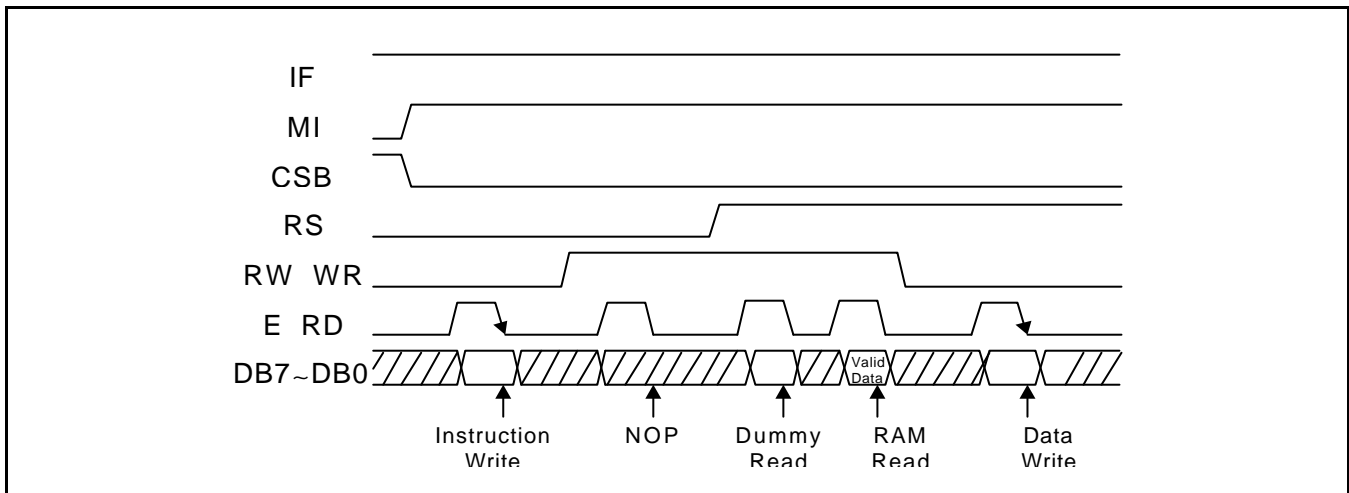
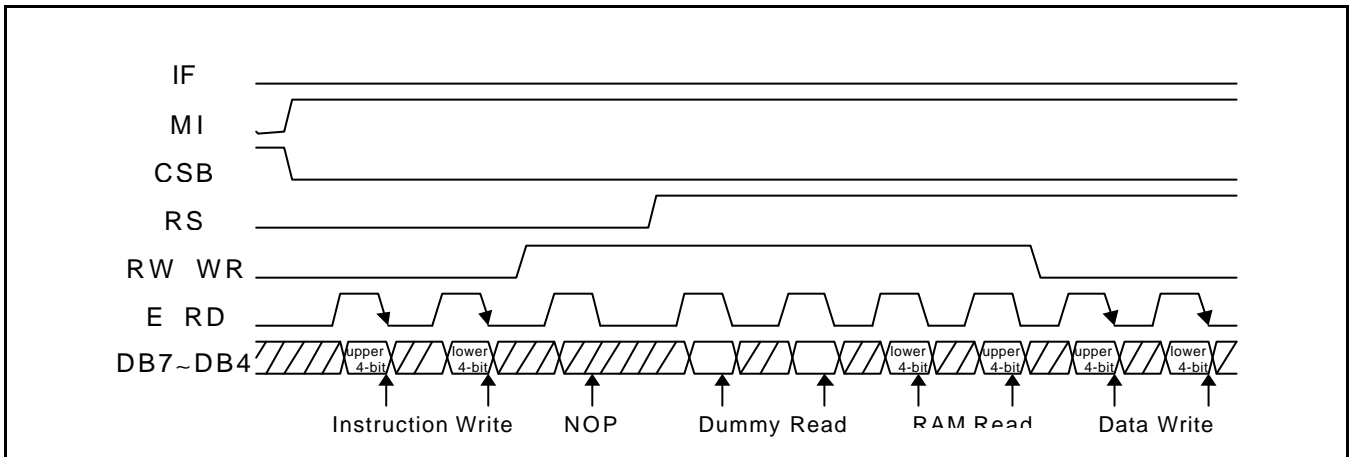

Figure 3. Timing Diagram of 8-bit Parallel Bus Mode Data Transfer (68-series MPU Mode)
Figure 5. Timing Diagram of 4-bit Parallel Bus Mode Data Transfer (68-series MPU Mode)
During reading operation, 8-bit register, output data register (OR) is used. The output data register (OR) is used as temporary data storage place for being read from DDRAM / CGRAM / ICONRAM and one of these RAMs is selected by RAM address setting instruction. After RAM address setting, first reading is a dummy cycle in 8-bit bus mode (figure 3, 4). The valid data comes from second reading. In 4-bit bus mode, after RAM address setting, first and second reading are dummy cycles (figure 5, 6). The valid data comes from third reading. The dummy read make the address counter (AC) increased by 1. So it is recommended to set address again before writing. The instruction read cycle is not supported and it is regarded as a no operation cycle.